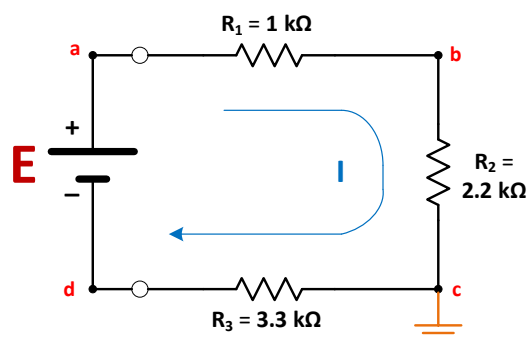

Figure 2.0b: Circuit reference node at “c”
(iii) **Relocate** the circuit ground *reference node* at node “c” as shown in **Figure 2.0b**, thereby making $V_c = 0V$. Then **repeat** above steps (i) and (ii) but with calculations/measurements of node voltages V_a , V_b and V_d with respect to reference node “c”; and circuit element voltages across $R_1 (=V_{ab})$, $R_2 (=V_{bc})$, and $R_3 (=V_{cd})$ as before.
3. Relocate the circuit reference ground at node “**c**” shown in **Figure 2.0b**. Repeat **steps 1** and **2** above.